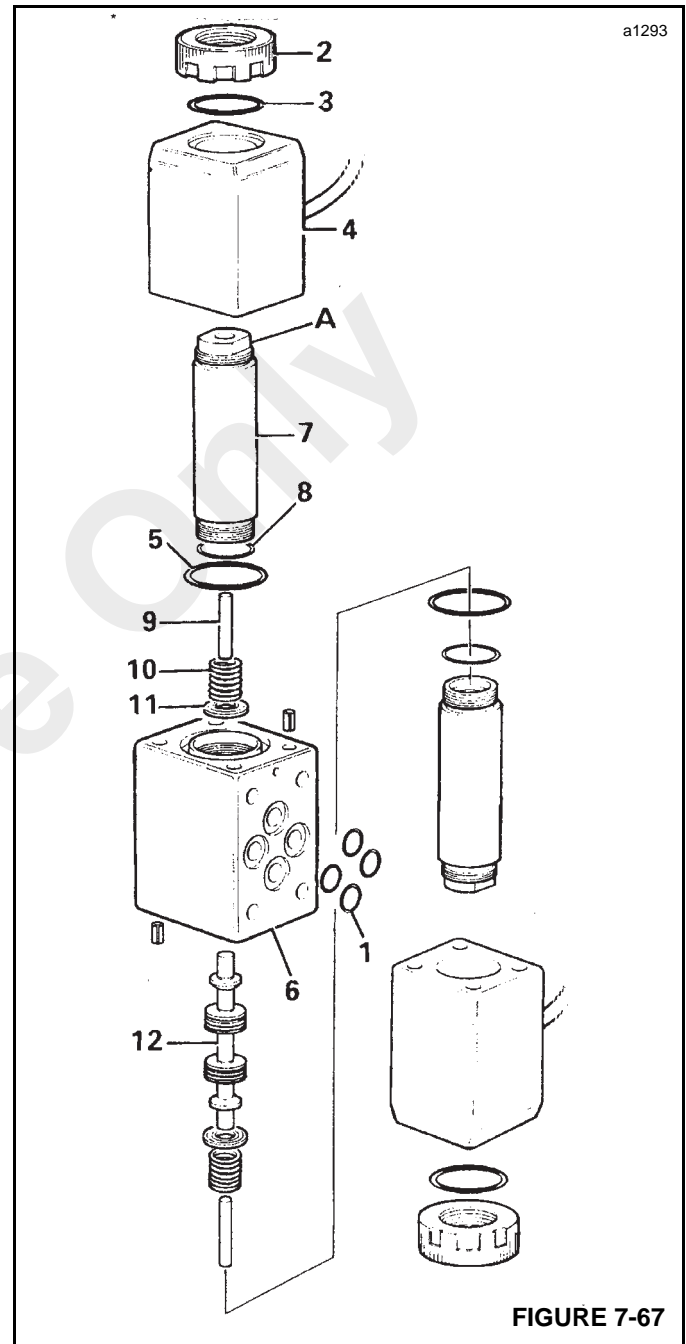

FIGURE 7-67
1. Unscrew the knurled nut (2, Figure 7-67) and remove O-ring (3). Remove solenoid (4) and O-ring (5).
2. Hold the solenoid valve body (6) in a vice. Using the wrench flats (A), remove spindle (7) and O-ring (8).
3. Pull out actuating pin (9) spring (10), spring retainer (11) and spool (12).
3. Apply a small amount of Loctite 243 to the threads in the knurled nut (2, Figure 7-67) before installing. Tighten to a torque of 10 to 15 Nm (8 to 10 lb-ft).